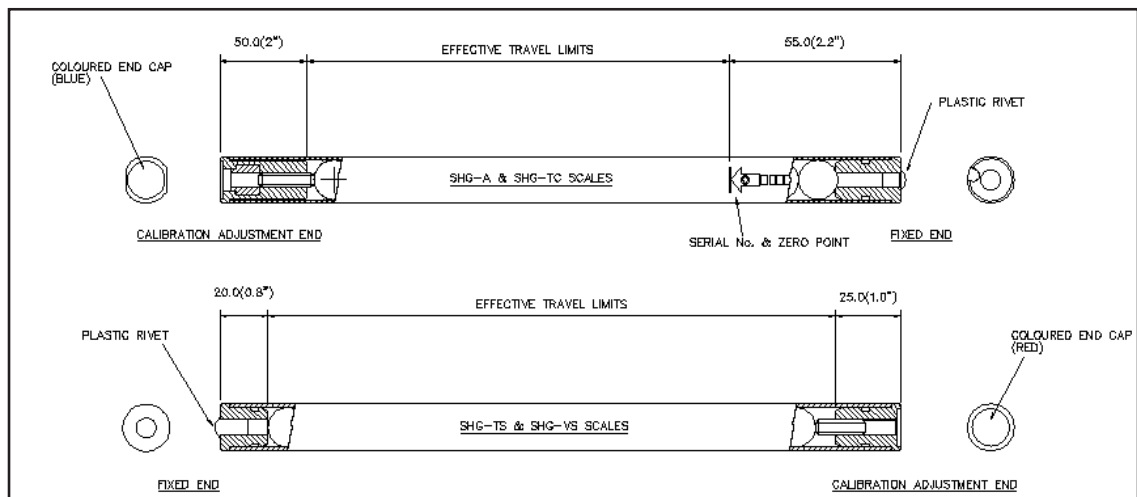

Figure 4.1 -Scale
- (A) Erroneous readings will occur if the reader head is allowed to travel beyond the effective travel limits (Refer to Figure 4.1).
- (B) The pre-load on the balls are factory set via the set screw at the calibration adjustment end.
Caution: Do not tamper with or adjust the set screw as this will alter the calibration and accuracy specification of the scale and void the warranty (Refer to Figure 4.1).